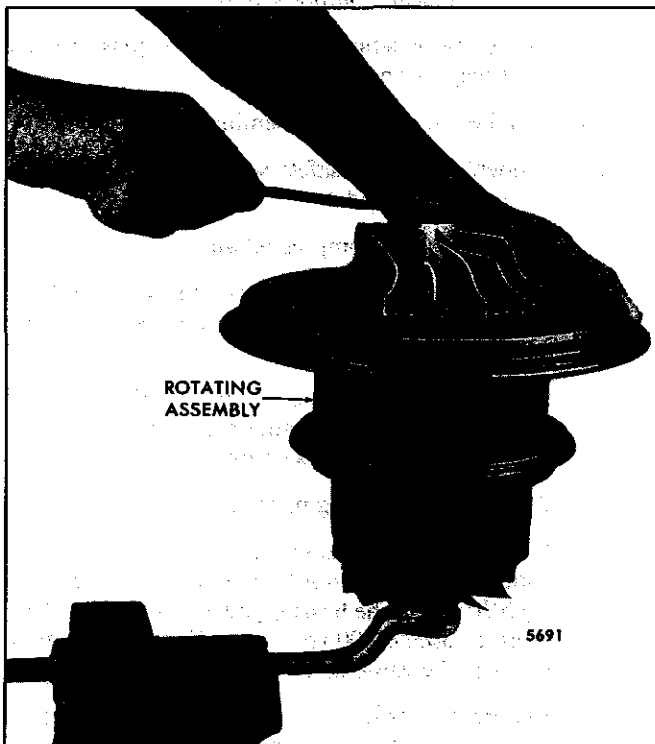

Fig. 5 - Removing Compressor Wheel Lock Nut
5. With the turbine wheel lug of the rotating assembly in a 1" wrench (Fig. 5), remove and discard the compressor wheel lock nut.